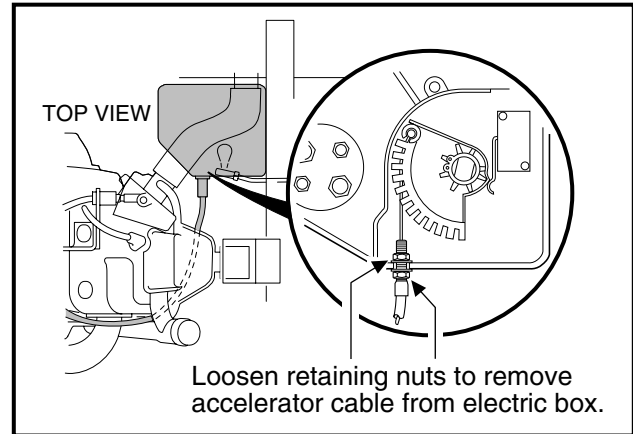

Figure 16-15 Accelerator Cable
- 5.6. Loosen the hardware securing the accelerator cable to the box and disconnect the cable from the actuator cam and remove it from the box (**Figure 16-15, Page 16-9**).